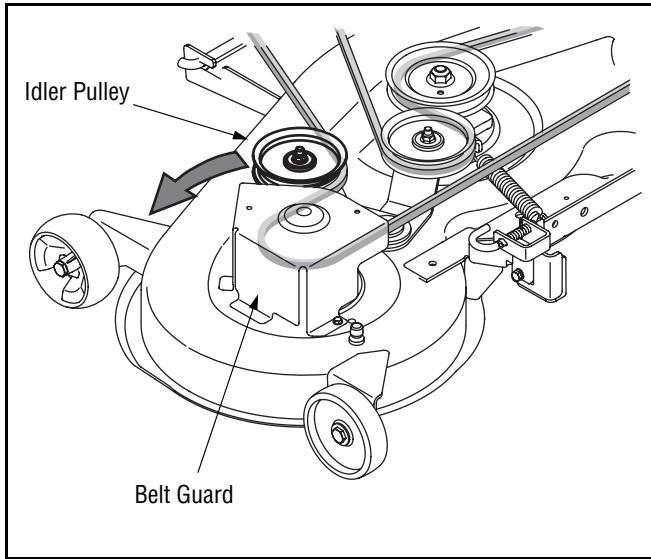

Figure 24
- Carefully grasp the idler pulley and pivot it toward the tractor's left side to relieve tension on the belt. See Figure 24.